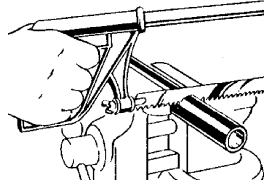

Fig. 1
1. Cut hose to length required using a fine-tooth hacksaw or cut-off machine. Clean hose bore. (See Fig. 1)